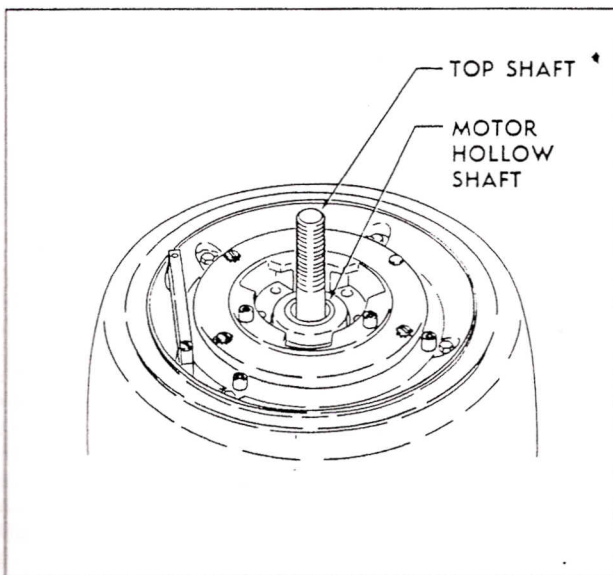

Figure 3-3. Top Shaft Centering
h. Check that top shaft is in center of motor hollow shaft (figure 3-3). Shim between pump head and foundation if necessary to center top shaft and insure that motor rotates in the proper direction by momentarily starting motor.
ab. Lift pump head with attached top column pipe, remove thread protector and lower over top shaft (figure 3-3).